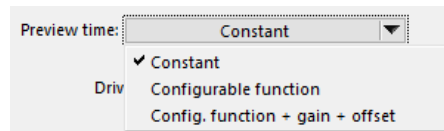

Figure 21. Options for defining preview time.
- (5) Control to set the preview time. A drop-down control is used to select between different options for defining the preview time (Figure 21).